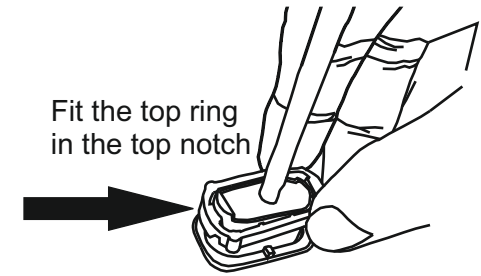

Fig. 6
- 6) First put the bottom ring over the sensor module. Then fit the top ring in the top notch on one side and press it from the other side as shown in Fig. 6. The top ring will be locked in the top notches on both the sides of the sensor module.